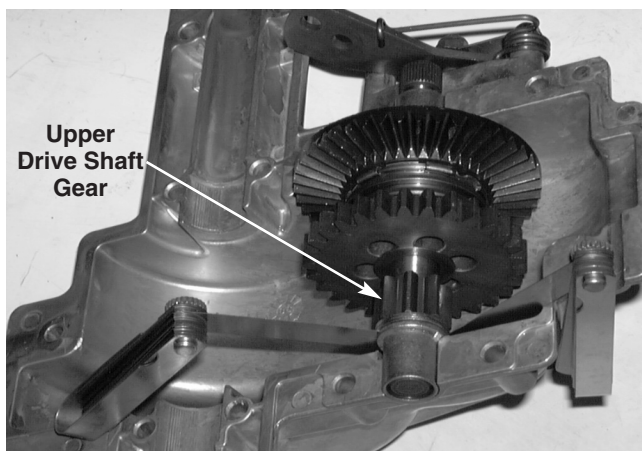

FIGURE 5.
- 15). Place two feeler gauges between the gear on the upper drive shaft and the flat washer shim. See figure 5.